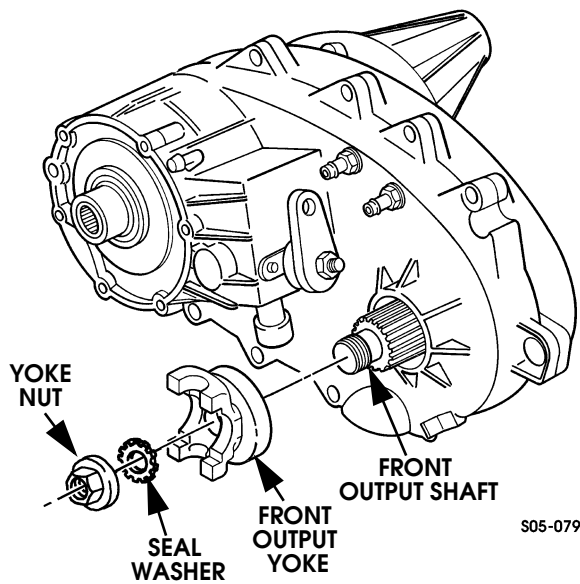

Figure 5-167: Front Yoke Installation
- 42. Check seal contact surface of front yoke. Smooth surface with 320-400 grit emery if necessary. Then lubricate seal surface with Dexron III and Install yoke, new seal washer, and new yoke nut. Tighten yoke nut to 130-200 lb-ft (176-271 N•m). Use yoke tool J-8614-01 to hold yoke while tightening nut (Figure 5-167).